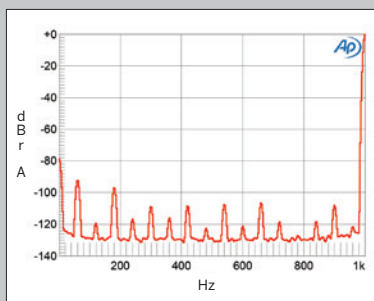

Fig.3 CH Precision M1.1, spectrum, DC-1kHz, ref. 1W into 8 ohms (linear frequency scale).
input shorted to ground and ref. 1W into 8 ohms, was 76.4dB, improving to 83.6dB with the measurement bandwidth restricted to 22Hz–22kHz and to 89.3dB with an A-weighting filter in circuit. Spectral analysis of the low-frequency noise floor (fig.3) indicated that there were AC power-supply-related spurious at 60Hz and its odd-order harmonics, these presumably due to magnetic interference from the huge power transformer. Other than the spectral components at 60Hz and 180Hz, which were at a still-low –93dB and –97dB, these spurious all lay